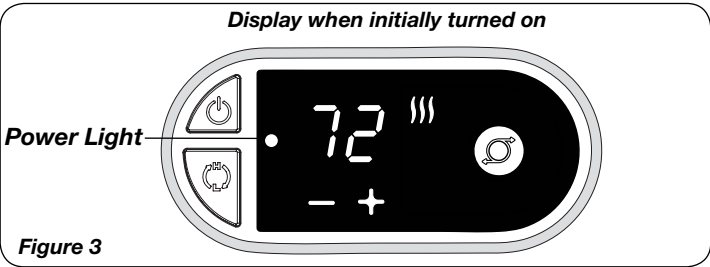

Figure 3
- Upon turning the Heater on, the unit will be in HIGH heat (III) (1500 Watts) and will display the current room temperature. (Figure 3)
- Press the (☺) button for LOW heat (I).